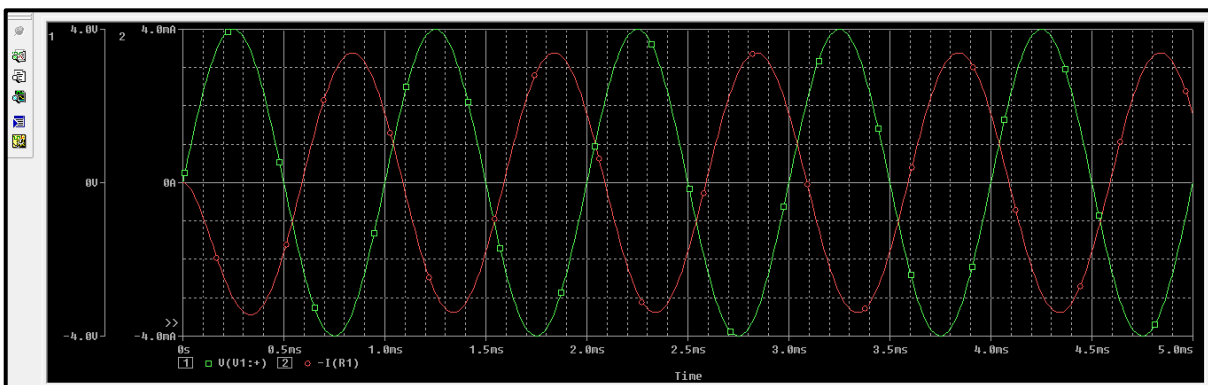

Figure.46
- Voltage and current traces are shown in figure.46, each trace is on a different y-axis range.